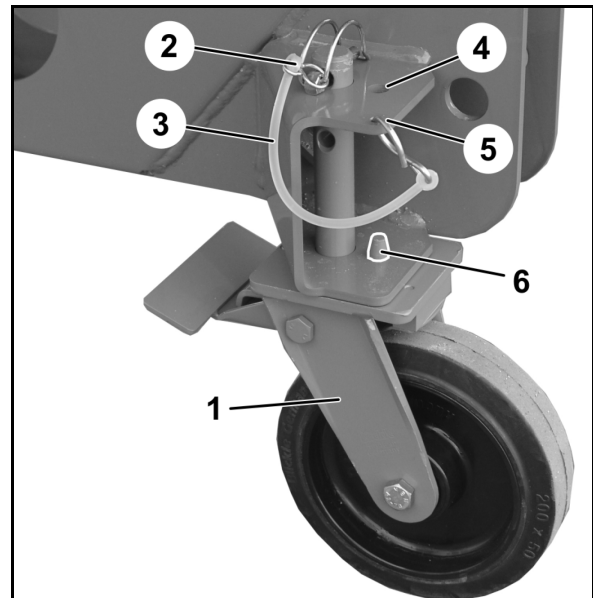
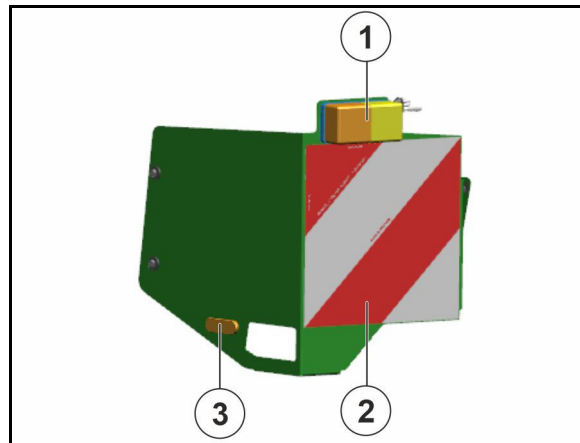

Fig. 10
Fig. 11
- Secure the linchpins on the machine (Fig. 10/5; Fig. 11/5) using the securing strap (Fig. 10/3; Fig. 11/3).
5. **Steerable** castors **front** (Fig. 10/1),
Fixed castors **rear** (Fig. 11/1)
- o Fit and secure with a linchpin (Fig. 10/2; Fig. 11/2) or
When the transport castors are not in use, secure the clip pins in the parking position (Fig. 10/4 Fig. 11/4).
When installing the fixed castors ensure that the pin (Fig. 11/6) goes through the hole in the frame, thus holding the castors in a longitudinal orientation.